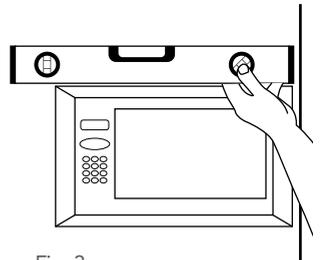

Fig. 3
- Firstly, determine the position of the safe against the wall using a spirit level to ensure it is level. Ideally the safe should be close to an adjacent wall to make it difficult for an intruder to prise off. [Fig. 3]